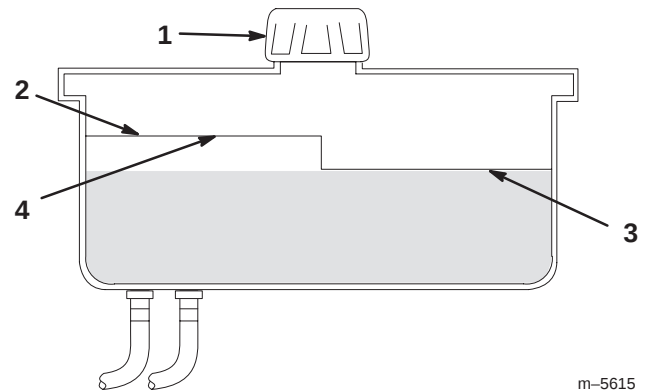

Figure 53
2. Clean the area around filler neck of hydraulic tank (Fig. 53).
3. Remove the cap from the filler neck. Look inside to check if there is fluid in the reservoir (Fig. 53).
Note: The fluid level should be to the top of the **hot** level of the baffle, when the fluid is hot (Fig. 53).